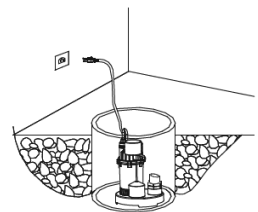

Fig. 3
4. Place the pump into a sump pit (Fig. 3).